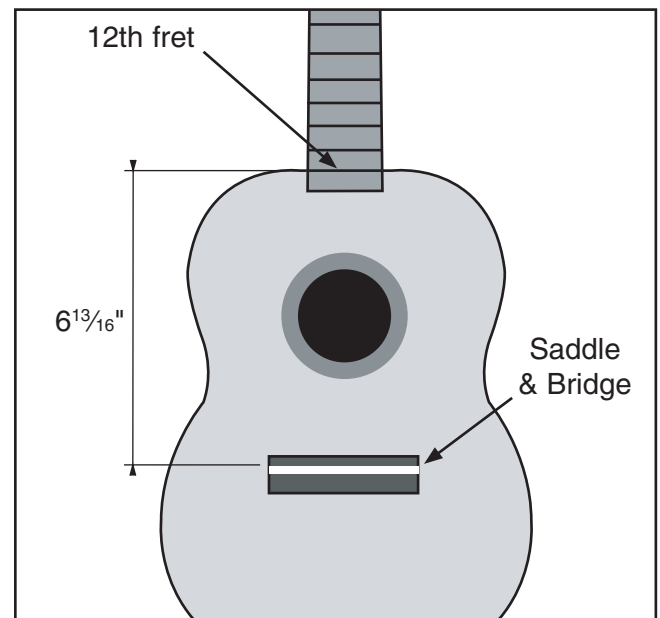

Figure 10. Bridge positioning.
1. Insert the saddle into the bridge and position the front edge of the saddle $6\frac{13}{16}$ " away from the center of the 12th fret (**Figure 10**).